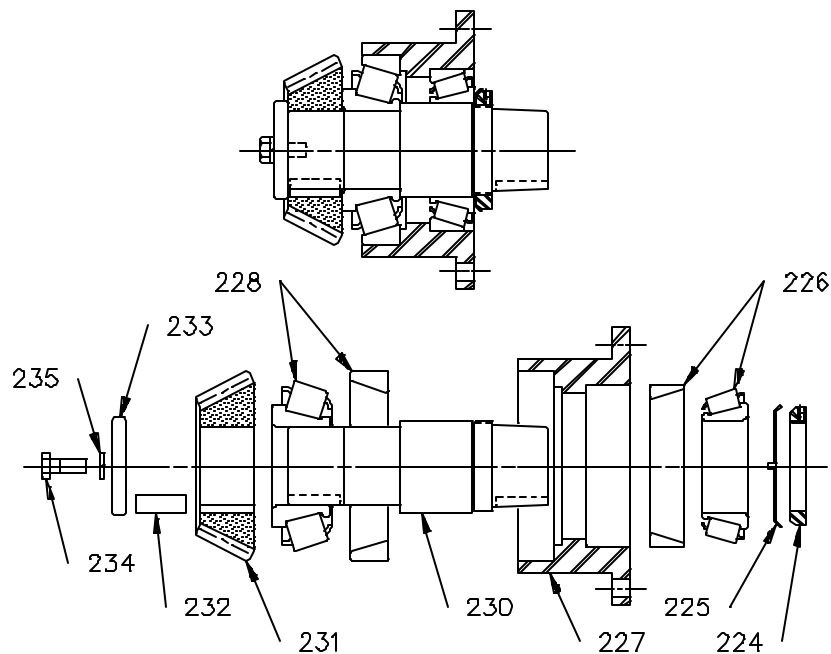

Figure 1: Spiral Bevel Pinion Cartridge Assembly [223]
6. Remove spiral bevel pinion cartridge assembly [223] (Figure 1, page 4) and shim set [236]. Keep the shim set intact for reference at assembly.